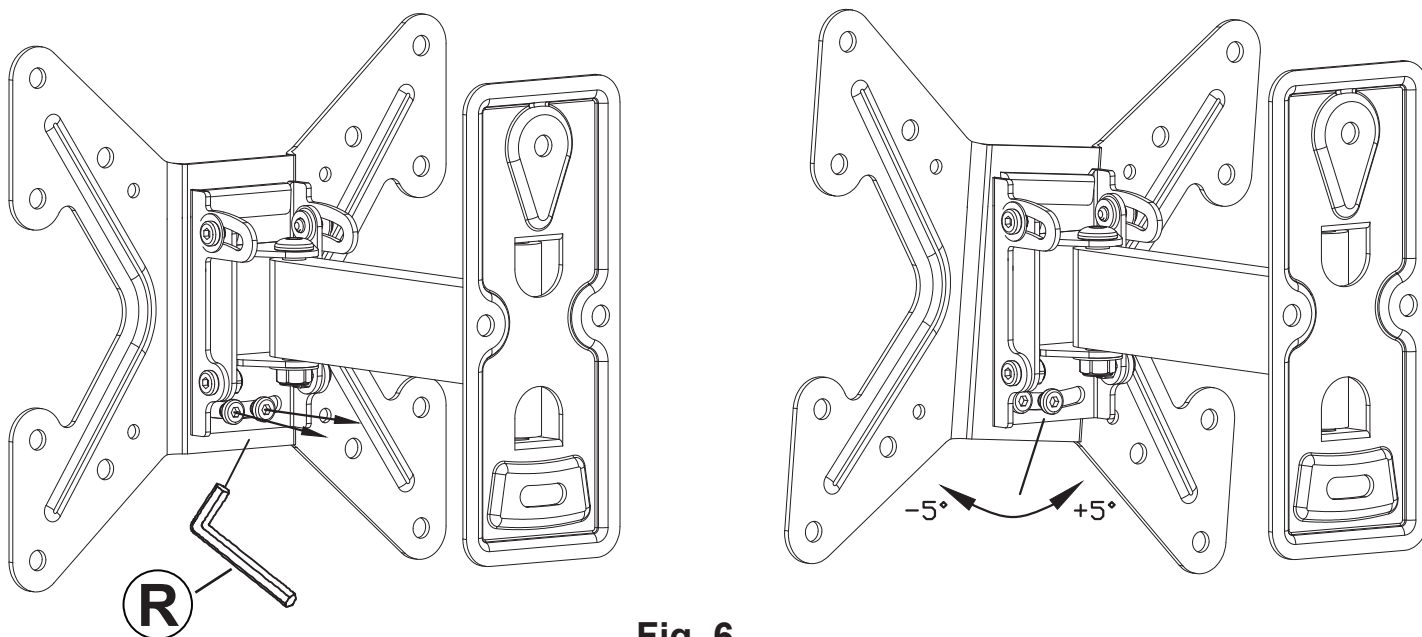

Fig. 6
1. If necessary, the TV can be rotated from -5° to $+5^{\circ}$ by adjusting the two screws which connect the Wall Plate (1) to the TV Plate (2) as shown in Fig. 6.
2. To adjust the rotation, loosen these two screws with the Allen wrench (R) about 1/2 turn each, and gently slide the TV Plate (2) to the left or right depending on your needs.
3. Once the TV Plate (2) is in the correct position, re-tighten the screws by turning the Allen wrench (R) clockwise.